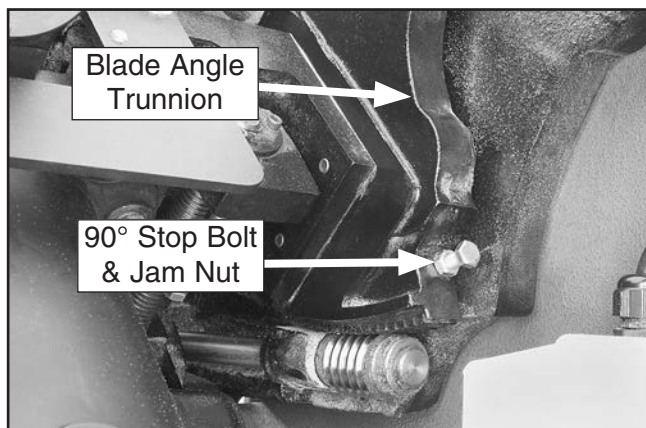

Figure 100. 90° stop bolt and jam nut.
5. Open the motor cover, loosen the jam nut shown in **Figures 100–101**, adjust the stop bolt up or down according to how far off the blade was from 90°, then repeat **Steps 2-3** until the blade stops at 90°.